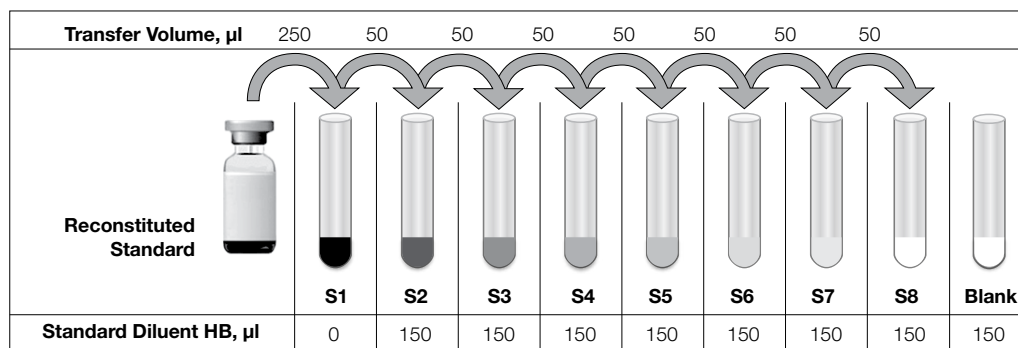

Fig. 3. Preparing a fourfold dilution series with a single reconstituted standard.
2. Add 150 μ l of standard diluent HB to tubes S2–S8 (Figure 3).
5. Continue with 1:4 (fourfold) serial dilutions as shown in Figure 3.